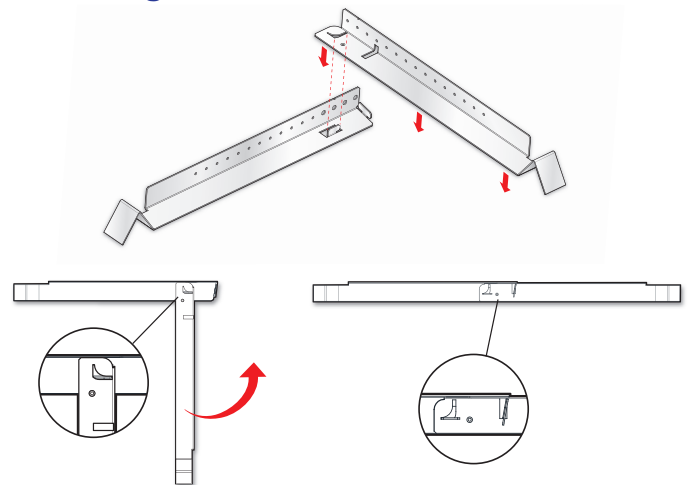

Figure 1. Assembling the V-rails
- a. Assemble two V-rail half-sections so that they become one single piece by fitting the tab of one end into the slot of the other end. Open the V-rail until it locks together (see figure 1). Repeat this procedure for the other V-rail.